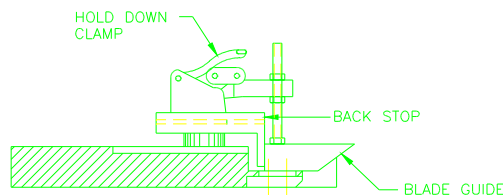

Figure 11. *Quick Disconnect Hold-Down Clamp.*
2. Loosen the two backstop bolts at each end of the blade guide. Release the two hold-down clamps located at each end of the blade guide (See Figure 11).